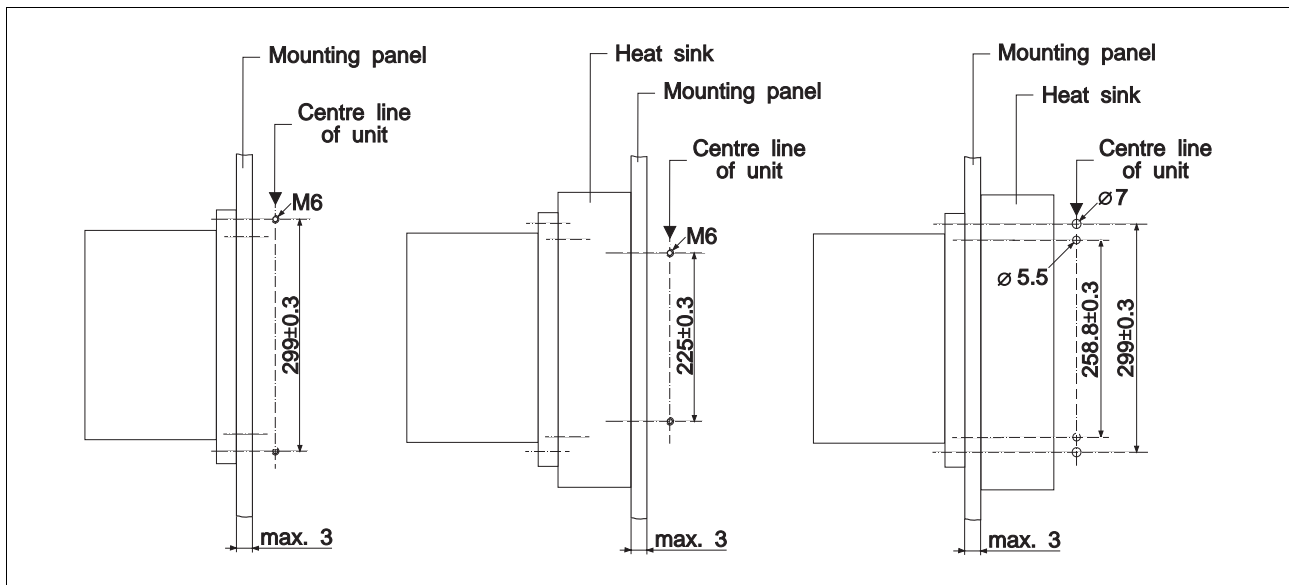

Fig. 6-12 Drilling pattern
2. Drill two holes in the mounting panel (fig. 6-12) and cut a M6 thread.
2. Drill four holes (fig. 6-12) in the mounting panel.